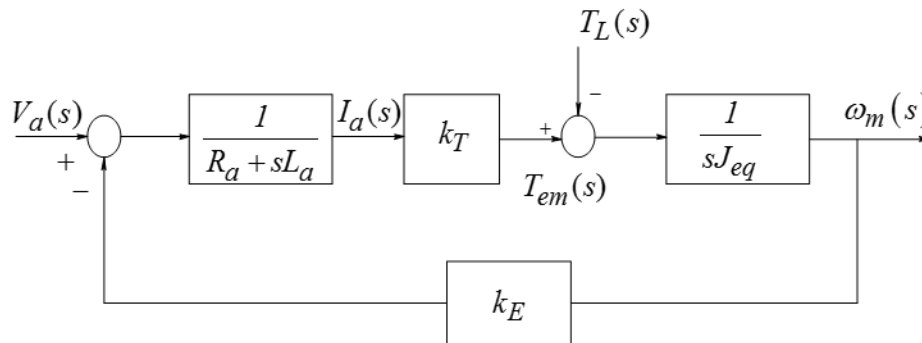
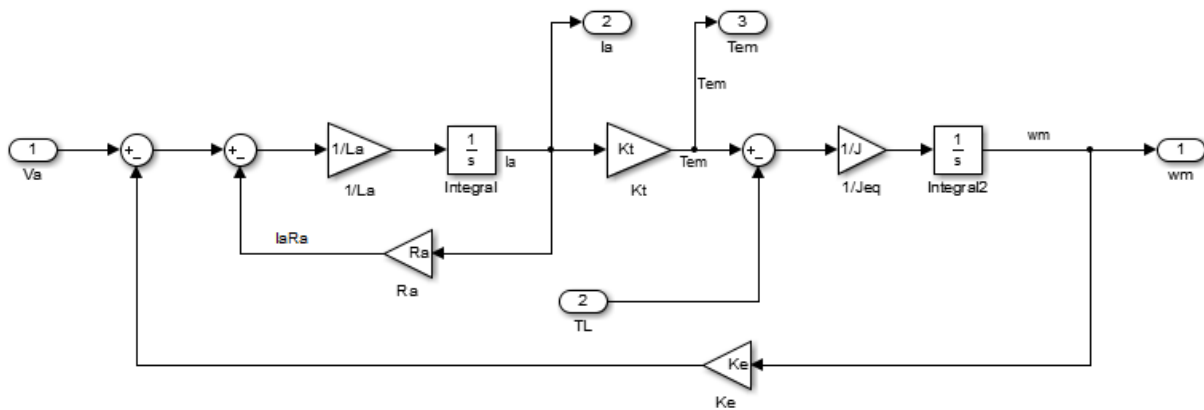

Figure 4.3: Block diagram of the PMDC motor's transfer function (UMN, Mohan)
Figure 4.4: MATLAB Simulink model of the PMDC motor equations.
The behavior represented by equations (1) and (2) above can be put into block diagram form as shown in Figure 4.3, where the substitutions $E_a(s) = k_E\omega_m(s)$ and $T_{em}(s) = k_T I_a(s)$ were used. **Ensure that you understand the conversion from time to Laplace domain as well as the conversion between equations (1) & (2) and the block diagram.** (Potential exam questions...)
Download the “PMDC_motor.mdl” file from BbLearn to your desktop Exp4 folder, and rename the file if necessary to remove any added parentheses. Double-click on the PMDC_motor.mdl file to load it into Simulink. It should look similar to Figure 4.4. This model is an implementation of Figure 4.3, with the current equation modified slightly as follows: